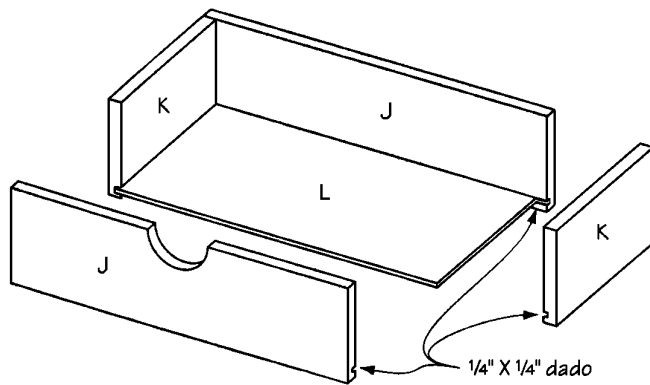

Figure 5
There are four identical drawers in this buffet. All four are constructed as shown in the assembly diagram in *Figure 5*.
1. Cut ten drawer front/back (J) from 1 x 6 pine, each measuring 19-7/8 inches long.
3. Cut ten drawer sides (K) from 1 x 6 pine, each measuring 9-5/8 inches long.
4. Cut four drawer bottoms (L) from 1/4" plywood, measuring 10 x 18-3/4 inches.
6. Assemble one drawer as shown in *Figure 5*. Note that the drawer front/back pieces (J) overlap the ends of the drawer sides (K). Use two 2" 6d finishing nails through each end of the overlapping drawer front/back (J).
7. Repeat the drawer assembly four more times using the remaining eight drawer front/back pieces (J), the eight drawer sides (K), and the four drawer bottoms (L).